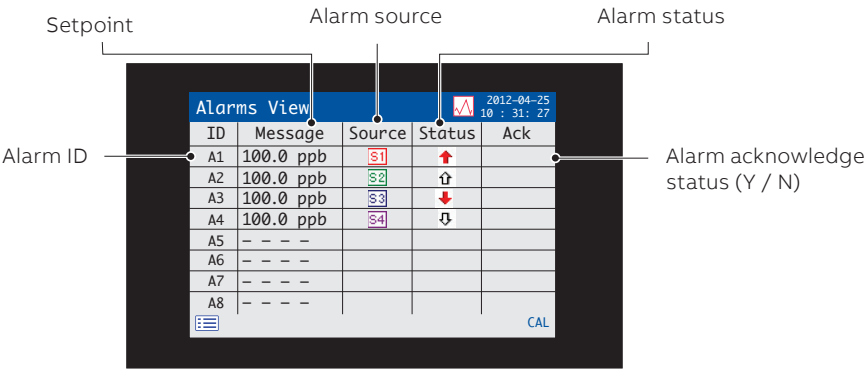

Fig. 6.7 Alarms View
- *Alarms View* – displays a list of alarms identified by priority (sequence number), source and status – see Fig. 6.7